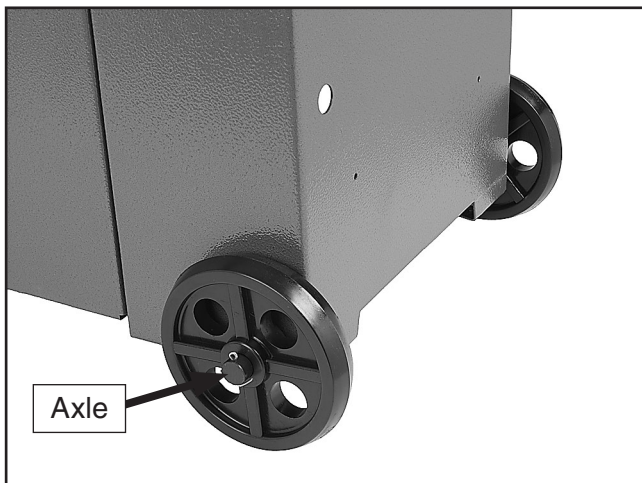

Figure 7. Wheels installed.
2. Slide the wheels on the axle and secure with the two cotter pins as shown in **Figure 7**.